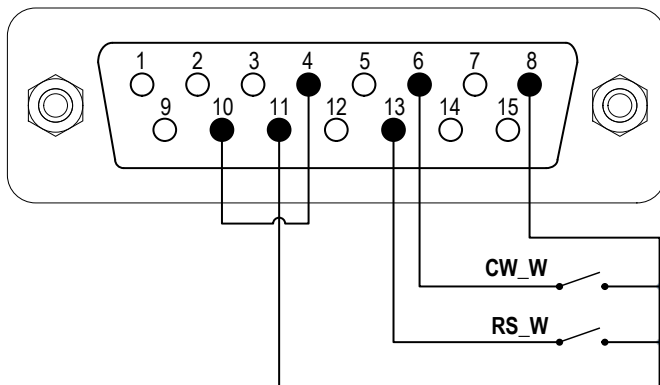

Figure 22. Logic Level 2 Control with Internal 12V Power Source
- 1) Switch the power off. Wire the DB15 connector as shown in Figure 22